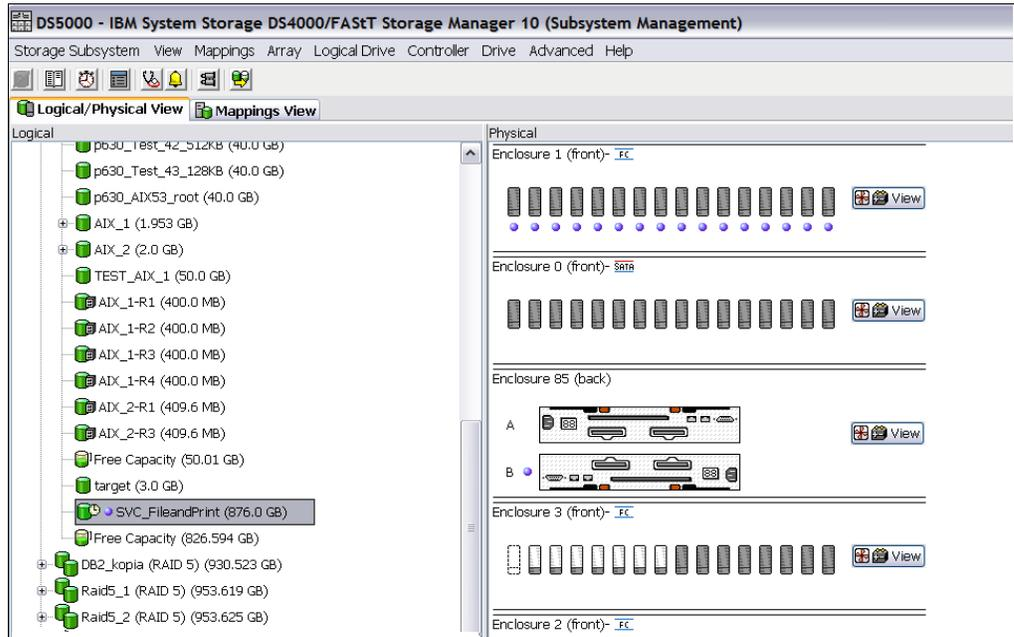

Figure 11-38 File and Print LUN
- ▶ The third LUN is the file and print LUN (Figure 11-38).